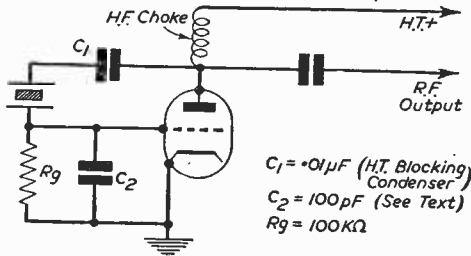
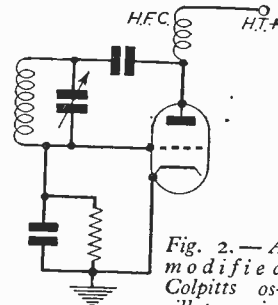

Fig. 1.—This is the circuit usually referred to as the Pierce Oscillator.
Fig. 2.—A modified Colpitts oscillator, in which a parallel-tuned circuit replaces the crystal of Fig. 1.
**B**OTH the circuit of Fig. 1 and the more common tuned-anode crystal oscillator circuit were originally due to Pierce, but it is the circuit illustrated which is generally referred to as the Pierce circuit. Like the majority of circuits commonly employed in amateur transmitter practice, the circuit employs the parallel resonant mode of the crystal, and it can be readily seen that the modified Colpitts oscillator of Fig. 2 results if we draw a conventional parallel tuned circuit in place of the crystal in Fig. 1.